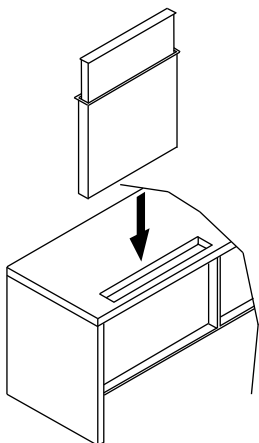

Fig 3
1. Cut-out the hole in the work top and place the Mozart into the cupboard (**Fig 3**).